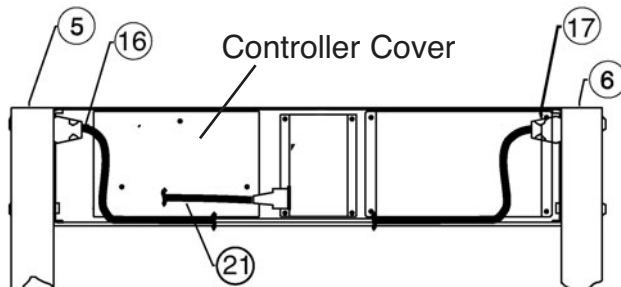

FIGURE 2-6
2. Open access door of detection unit. (See Figure 2-6)